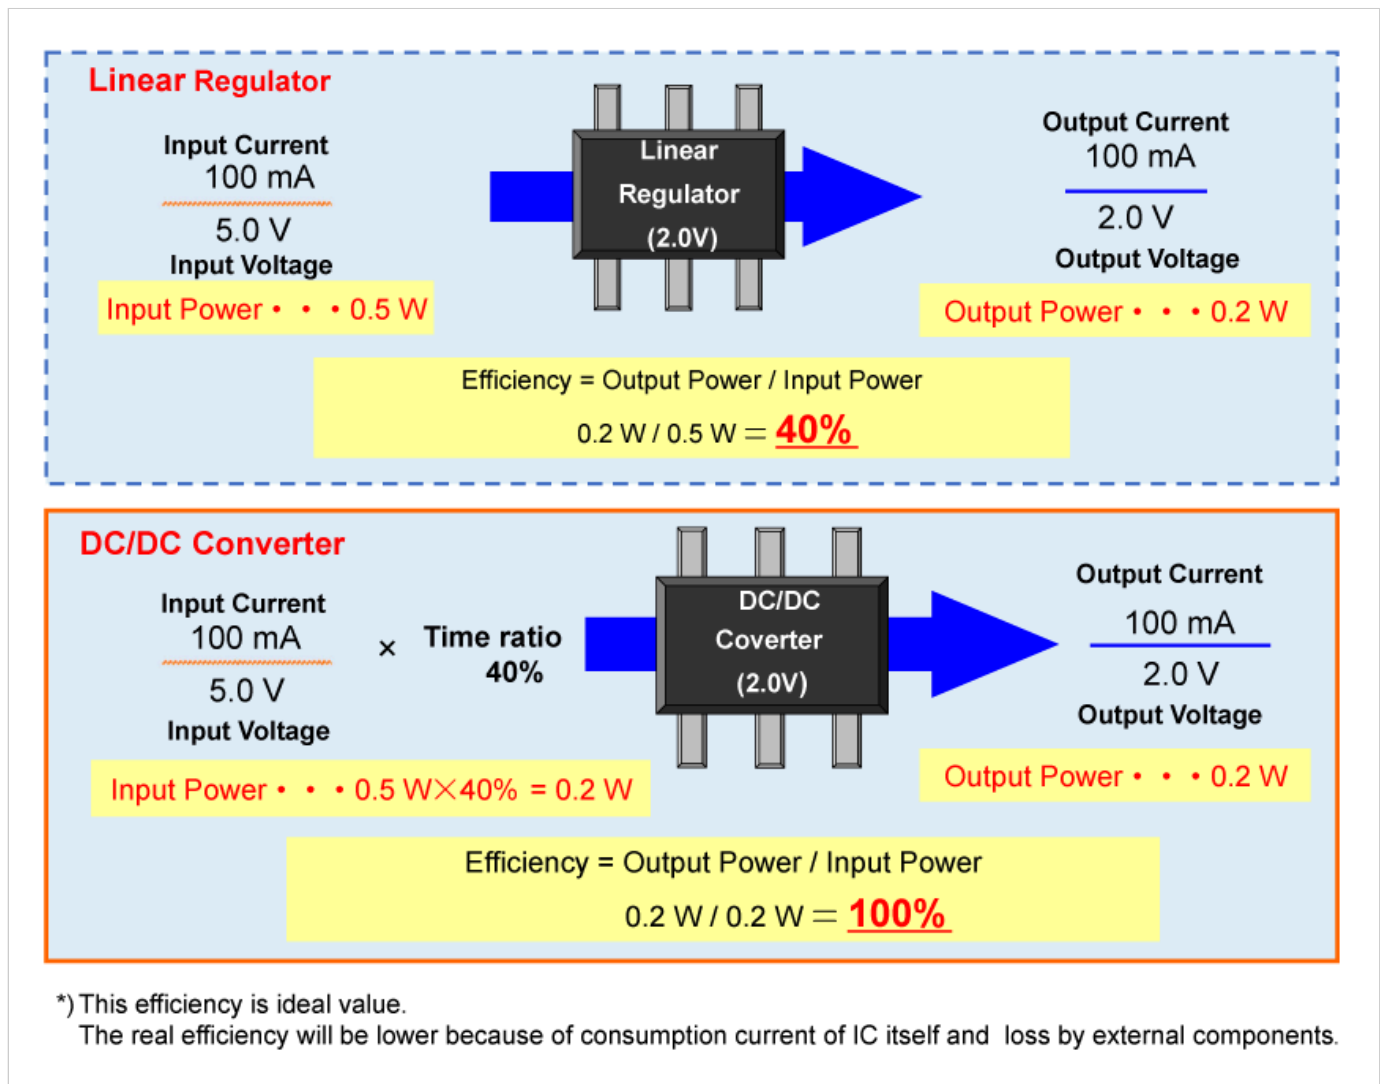

Figure 4. Comparison of Efficiency between Linear Regulators and DC/DC Converters
You may find comparison between linear regulators and DC/DC converters in Figure 4.
*Note that Figure 4 and the explanations above assume the ideal case that consumption current of linear regulators and DC/DC converters or loss by external components are not considered.